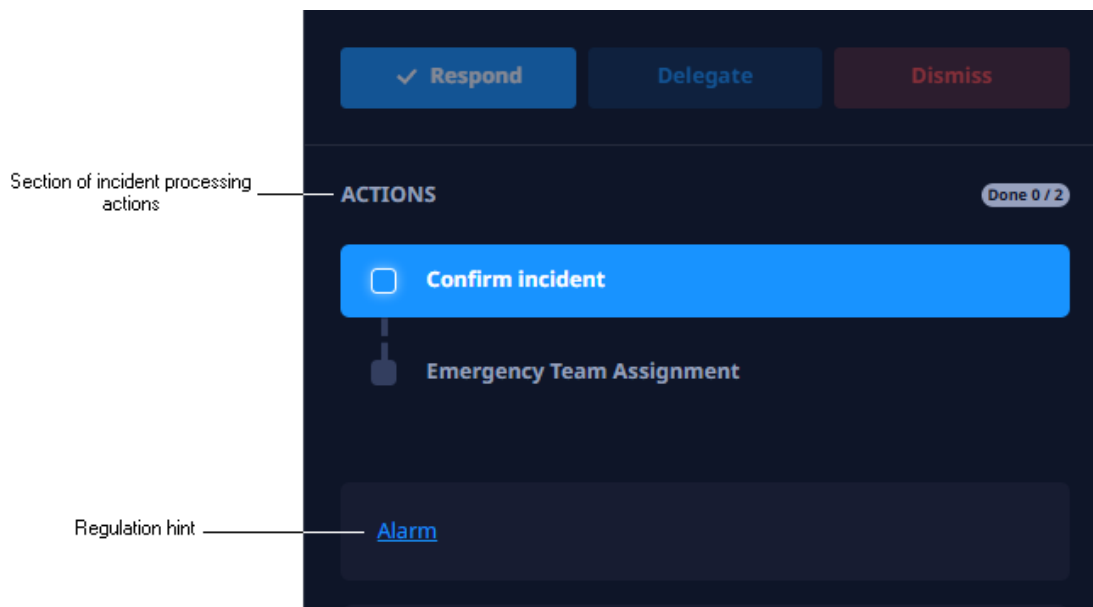

Figure 18. Action section and regulation hint
3. After selecting one of the options, the actions provided for processing this type of incident will be available (see Figure 18). Click on the tooltip to see the regulations for incident processing.